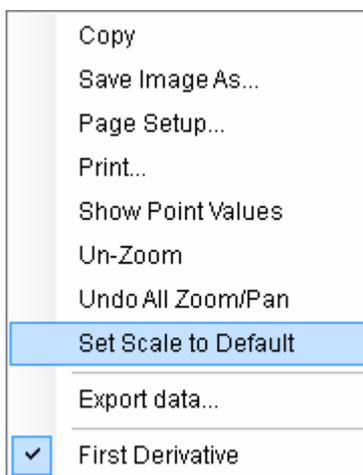

Figure 9-24. Time Study Wizard shortcut menu
9. Right-click the graph to open a shortcut menu, see Figure 9-24.